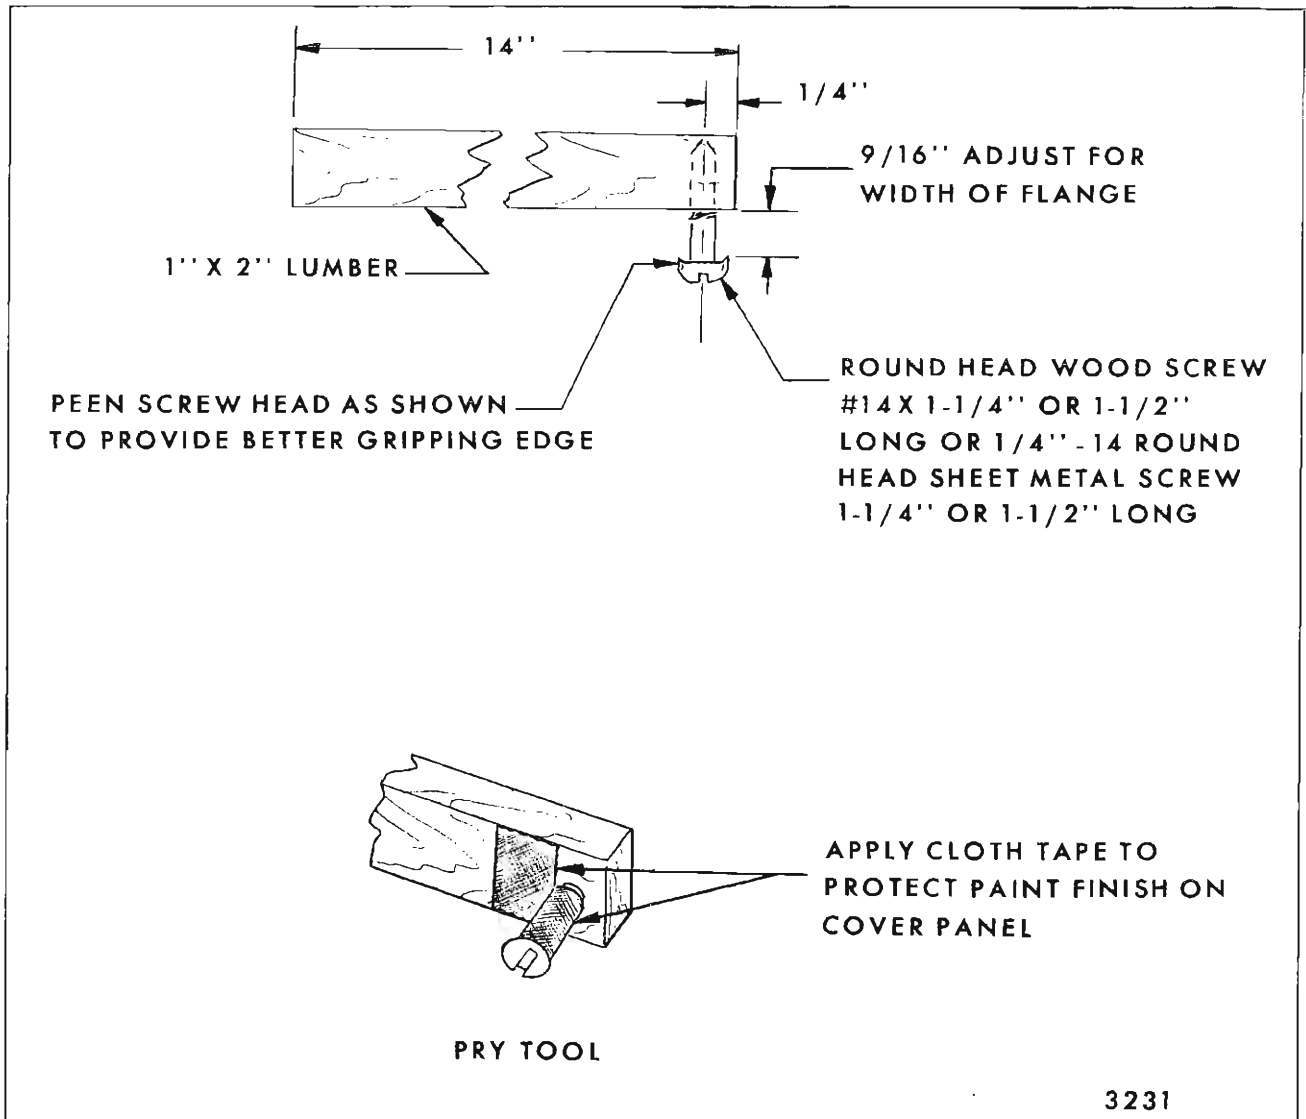

Fig. 9-34—Pry Tool Fabrication
Fabricate a special "pry tool", as depicted in Fig. 9-34.
**NOTE:** Prior to performing steps 3 through 9 make sure that tools are readily available in the body, as it will be difficult to exit from body. Tools required are: pry tool (See Fig. 9-34), #2 cross-recess screw driver, #2 cross